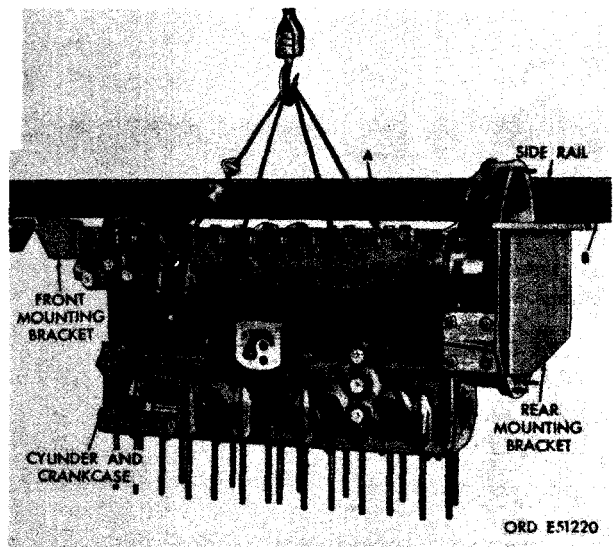

FIGURE 478. INSTALLING STRIPPED ENGINE ON CRADLE -7950198 OF ENGINE OVERHAUL STAND - 7950189.
- (1) Figure 478. (A) Lift engine to overhaul stand and side rail as shown. (B) Install side rail by reversing the sequence of instructions given in step A of figure 297.